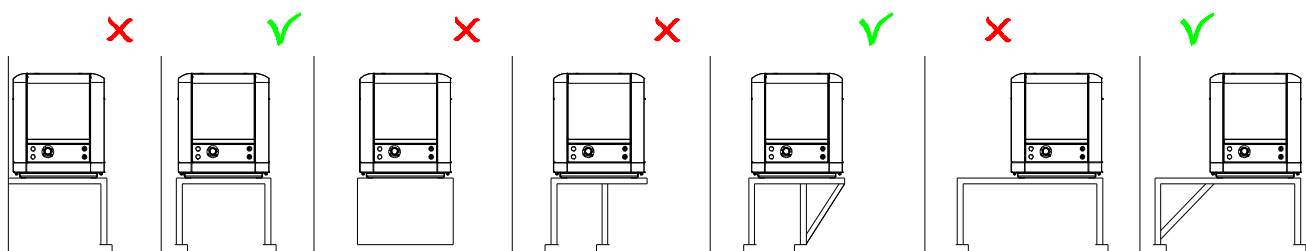

Figure 1: Mounting of the WhisperPower genverter.
- 1 Most importantly, the structure on which the genverter is placed must be stiff. Directly below the base frame, the structure should be supported by the vessel's frames. When this is not possible horizontal structures should be made stiff by additional provisions (Figure 1).
- 5 Never connect the base of the genverter directly to bulkheads or tanks (Figure 1).